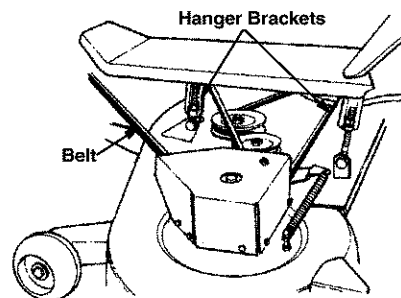

Figure 11
- Lift up on the edge of the deck and attach the left front deck hanger to the deck using a flat washer and hairpin clip. Make sure deck hanger goes through the center of V-Belt. See Figure 11.